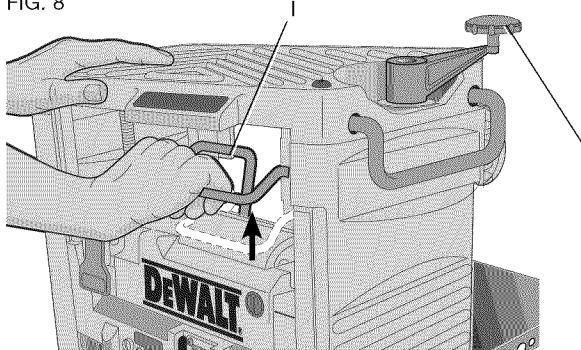

FIG. 9
The depth adjustment scale (J) indicates the finished thickness of your workpiece (Fig. 9). One rotation of the